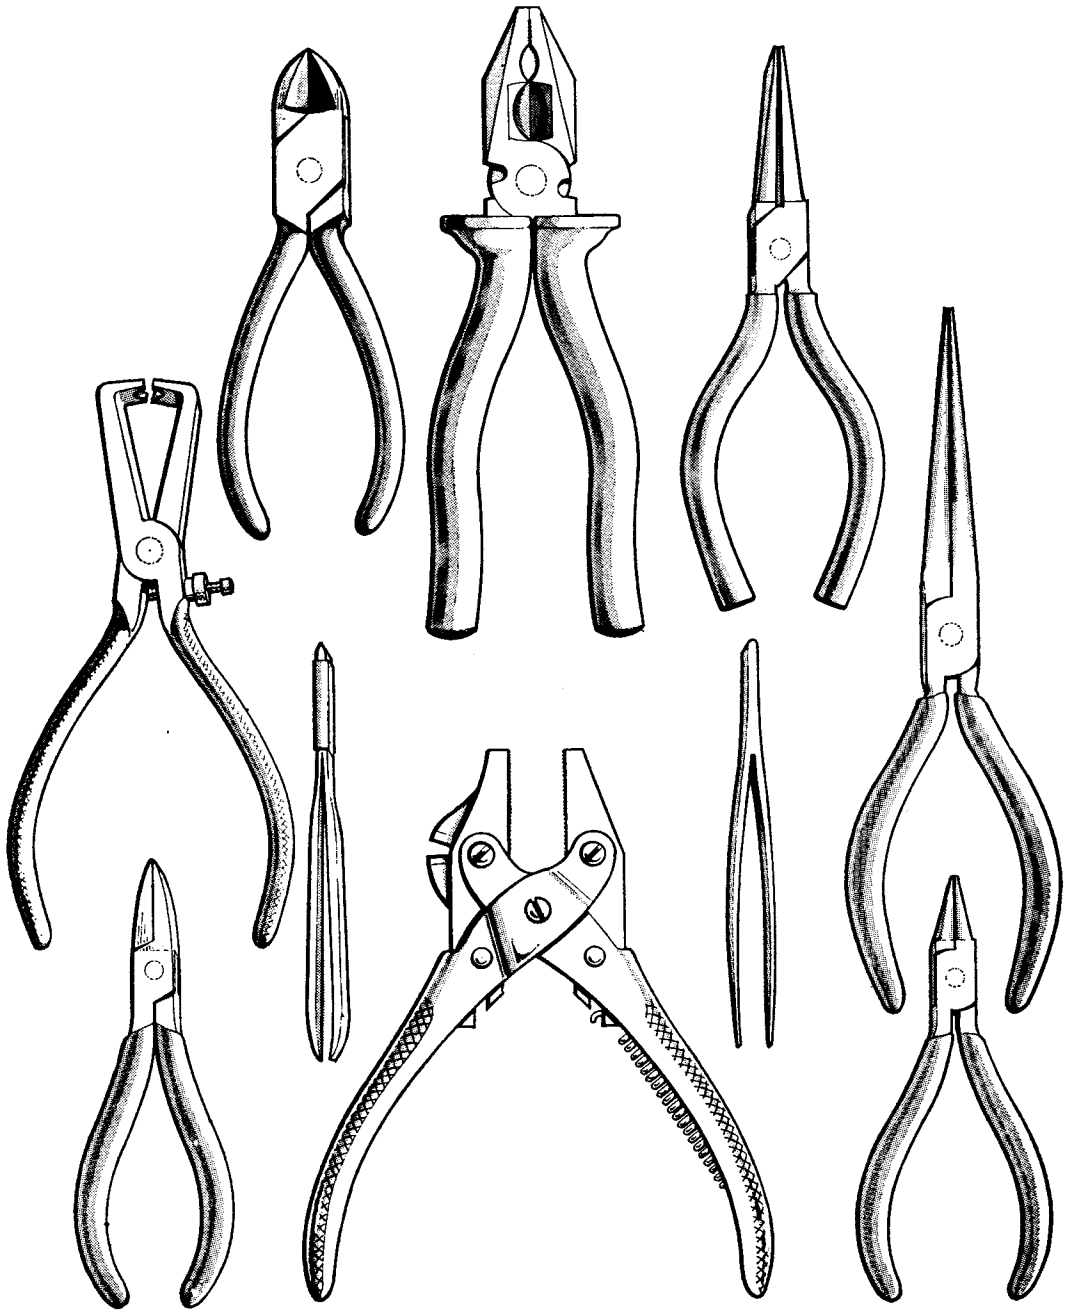

Fig. 19 Pliers and Nippers
19. **Pliers.** Pliers are used for gripping small objects which cannot easily be handled with the fingers. They can be used in places where the fingers will not go and for holding objects which are too hot to touch. Typical uses are holding components during soldering, removing split pins from locknuts and pulling wires through small holes. The jaws of different types of pliers are shaped to suit their normal applications. Classification is by type of jaw and overall length (Fig. 19).
20. **Nippers.** Nippers are used for cutting wires or small bolts and are very often incorporated as part of a pair of pliers. Some special types of nippers and pliers used for wiring work are discussed in Chapter 4; the more general types are illustrated in Fig. 19.